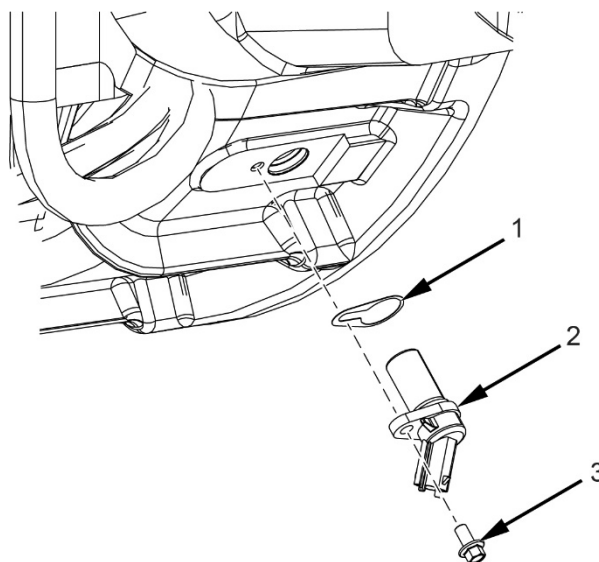

Figure 98.
1. Remove bolt (Figure 98, Item 3) from flywheel housing.
2. Remove crankshaft sensor (Figure 98, Item 2) from flywheel housing.
3. Remove shim(s) (Figure 98, Item 1) from flywheel housing.